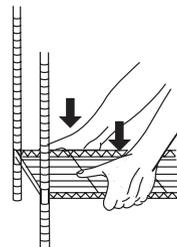

Fig. 3
5. Once all four poles are through the corner holes stand the shelving unit upright, and press the bottom shelf firmly onto the sleeves [Fig. 3].